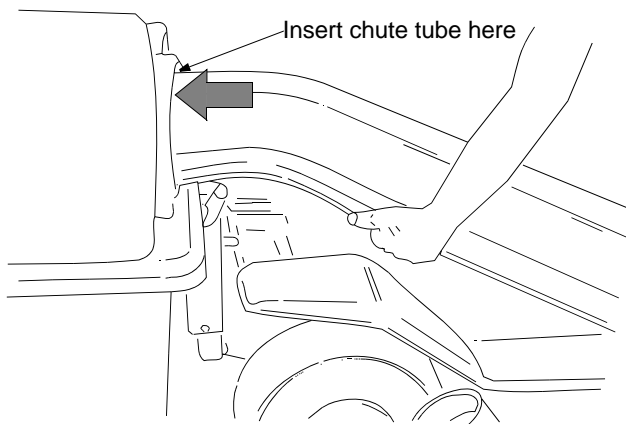

Figure 8
- Insert the curved end of chute tube into the hole in the grass bag cover following Figure 8.